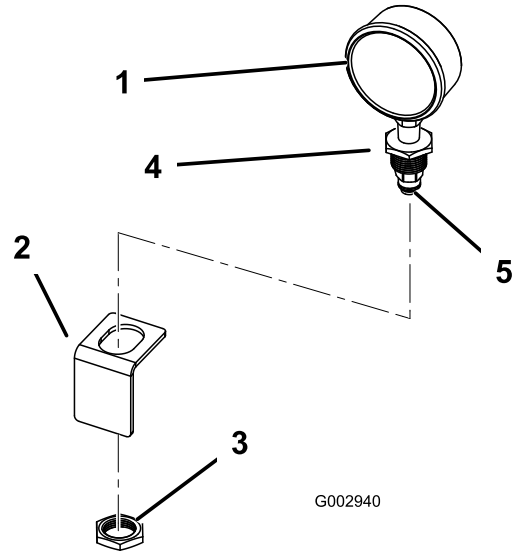

Figure 15
- 2. Install the black plastic fitting into the reducer fitting on the gauge (Figure 15).
- 3. Install the pressure gauge into the bracket under the circular opening inside the control valve cover, securing it with the nut packaged with it (Figure 15).